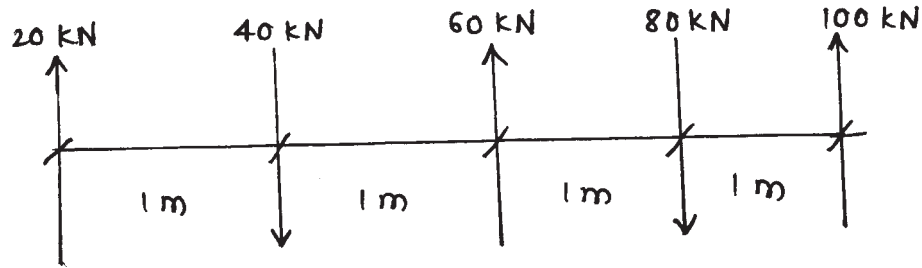

Figure No. 7
- c) Calculate the resultant in magnitude and locate its position w.r.t. point A for the force system as shown in Fig. No. 7.